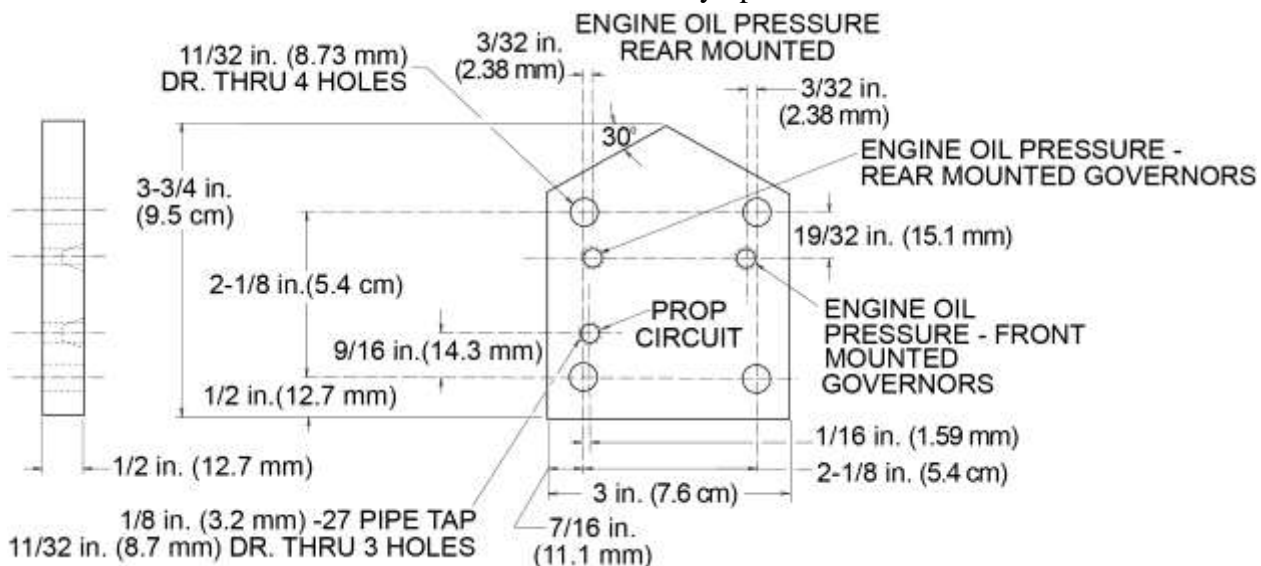

Figure 99
NOTICE: In the following steps, to prevent an air leak, use a propeller governor gasket P/N 72053 with test plate P/N ST-483 (Figure 99). Refer to the latest revision of Service Instruction No. 1462 for any updates.
- (2) Front-mounted propeller governors: Install the gasket and the test plate P/N ST-483, or equivalent on the governor pad with the air fitting in alignment with the governor oil passage that goes to the front bearing (forward hole) or left side of the mounting facing the pad. Refer to Figure 99.
- (3) Rear-mounted propeller governors: Install the left side bottom hole on the test plate P/N ST-483 on the front bearing and crankshaft transfer tube.
- (4) Connect a calibrated oil pressure gauge (0 to 100 psi) (0 to 689 kPa) to the appropriate engine oil pressure port on the test plate for your governor location. Install a plug in the propeller circuit and unused engine oil pressure circuit port.
- (5) Start and warm-up the engine until the oil temperature is within the correct operating range (Appendix A of the *IO-390-D Series Engine Installation and Operation Manual*.)